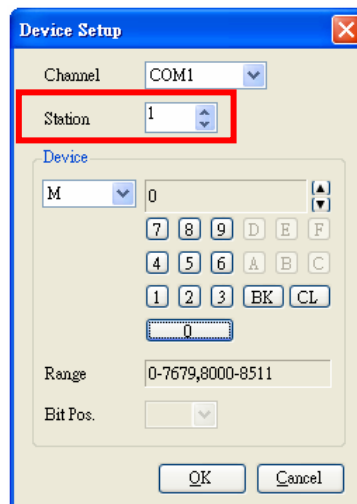

Fig. 2-1-22 Station Number Setup
- The PLC station internal number is 1 by default, so the component of the edit screen should have the station number set to 1 before the communication can begin. This is shown in Figure 2-1-22.